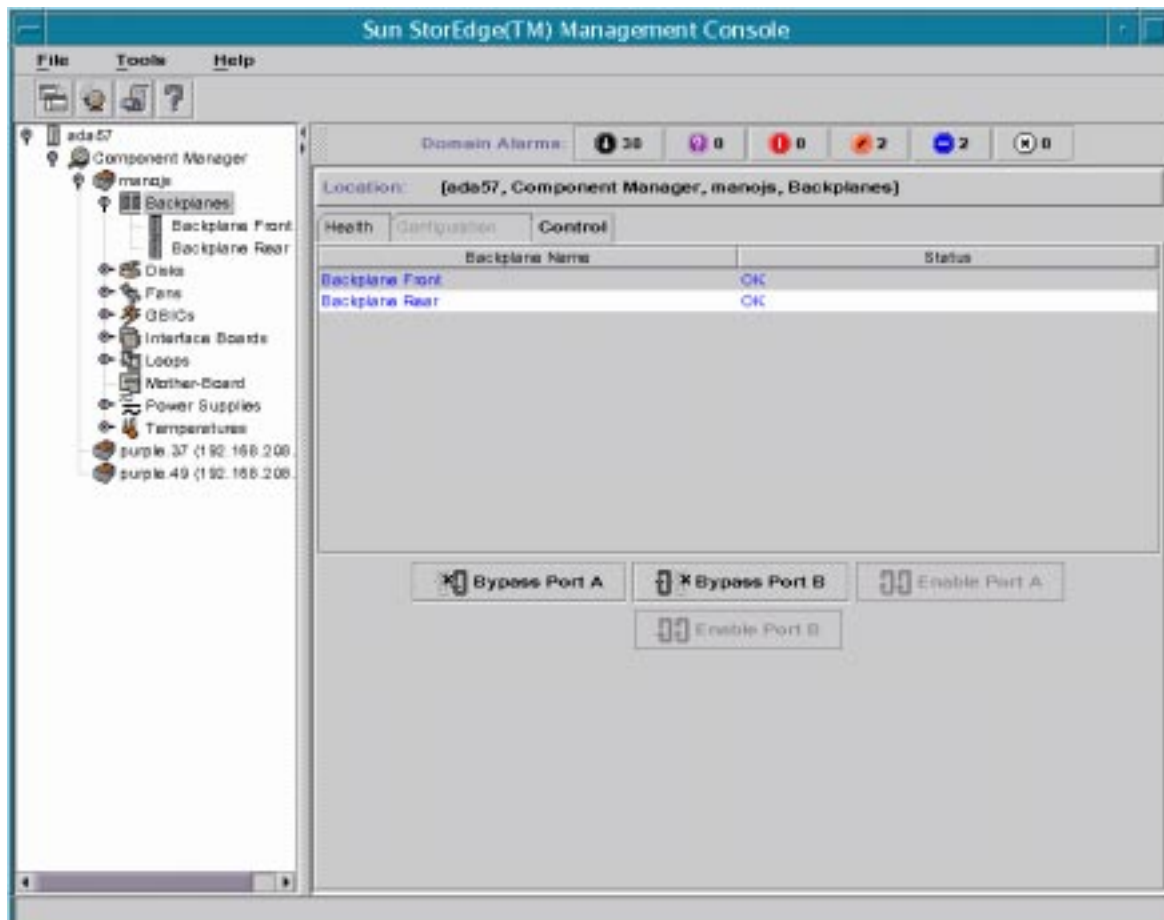

FIGURE 5-2 StorEdge A5x00 Backplane Control Window
3. Select the Control Tab (see FIGURE 5-2).